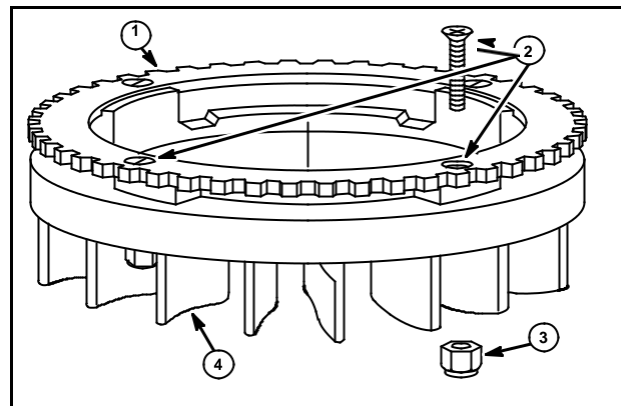

Fig. 31
1. With a center punch, mark the center of the rivets holding the ring gear (1) to flywheel (4).
3. Clean holes after drilling, Fig. 31.